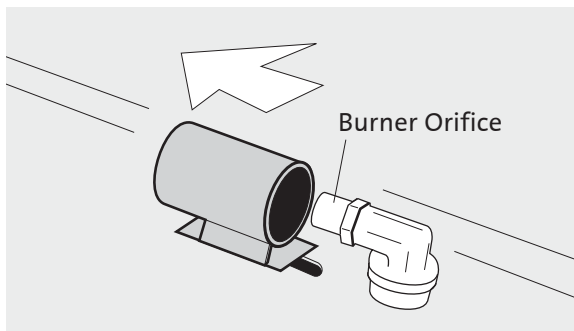

Figure 31. Move air shutter back to access the burner orifice.
- Slide the Air Shutter back out of the way to expose the orifice. See fig. 31. Using a 1/2" open end wrench or deep well socket remove the burner orifice and replace with the appropriate orifice, supplied in the kit.